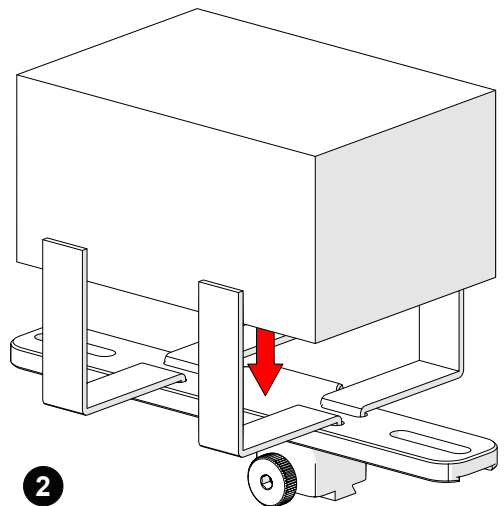

Fig. 80 - Place preamp and wrap velcro
2. Centre and place the preamp on the bracket wrapping the velcro around the preamp (Fig. 80).